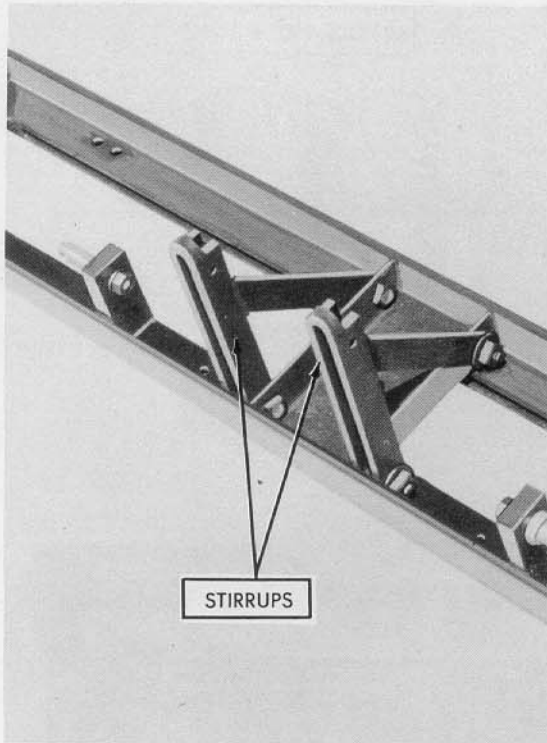

Figure 3
2. Invert the main frame and attach the stirrups with the braces to the inside. Secure the stirrups with the four bolts provided, as shown in Figure 3.